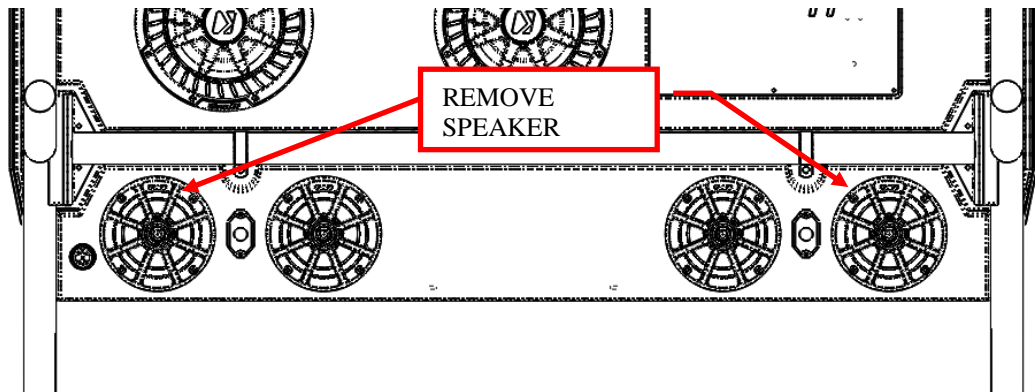

Figure 8: Remove the outside rear speakers.
7. Remove the outside rear speakers using a phillips head screw driver. Carefully unplug the speaker wires and set each speaker aside. See Figure 8.